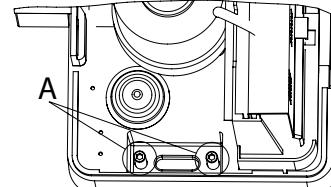

Fig. 6A
- If the M8x50 gear motor fixing screws are still screwed into the plate, unscrew them. The gear motor base is fitted with 4 captive nuts positioned on the underside of the gear motor casting, alongside the fixing slots. Screw the 4 studs provided into the nuts through the holes (ref. A Fig. 6A).